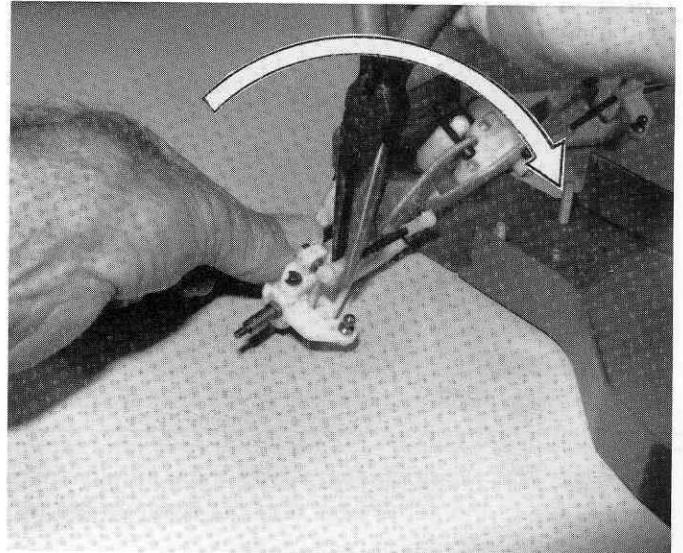

Fig. 18a
□ **Fig. 18a** The rod ends can be removed quite easily from the balls by holding the rod end with a pliers, as shown, and twisting the rod end off the ball, as shown.